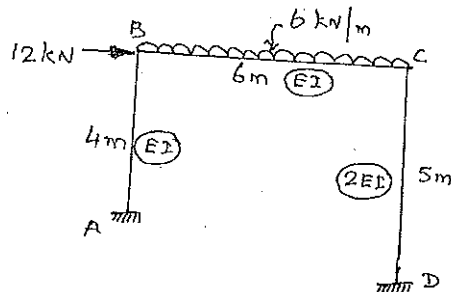

Fig. Q. 14.(b)
- b) Analyze the portal frame shown in Fig. Q. 14. (b) by slope deflection method and draw the bending moment diagram.